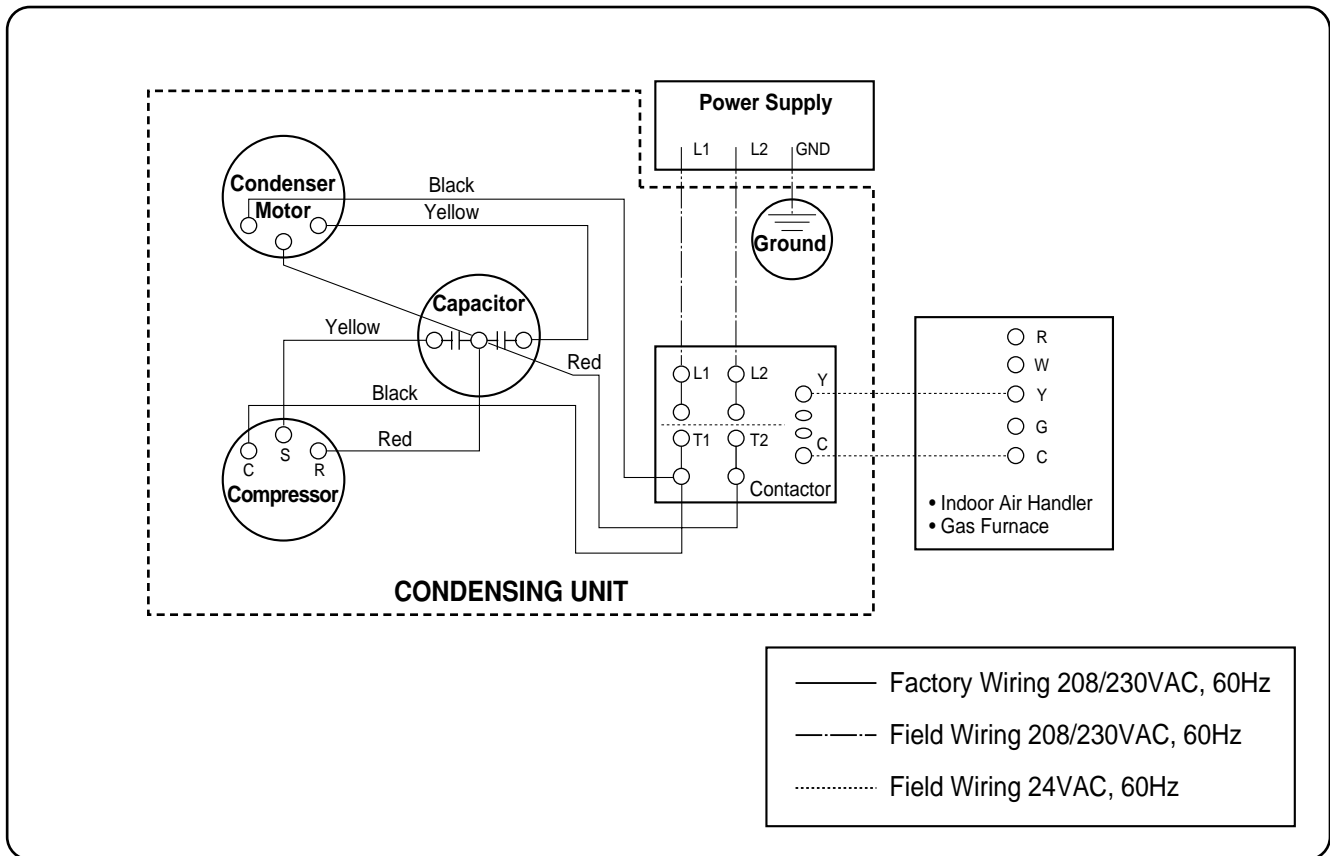

Fig. 7
4. Connect power wires and ground wire as shown in Figure 7
6. Connect 24 volt wires from indoor unit as shown in Figure 7.